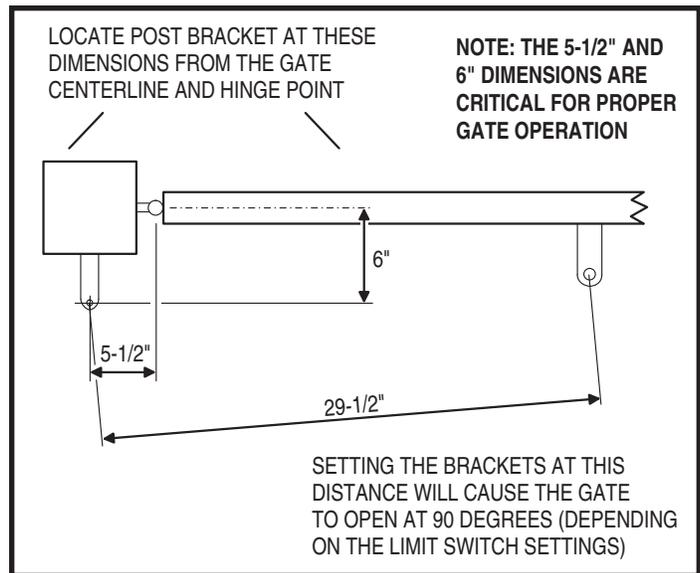

Figure 2. Required Bracket Locations
Examine Figure 2 for details of the required mounting locations for the two brackets. The brackets must be mounted at the correct locations to allow the operator to open the gate at a 90 degree angle and to ensure the operator functions smoothly.
2. Using Figure 2 as a guide, mark the locations on the post or pillar and the gate for the two mounting brackets.